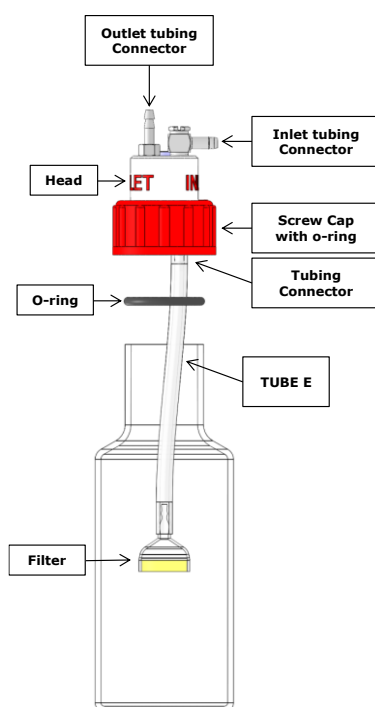

Figure 10. Assembling instruction of the Bubbling Column and its parts
3. Insert the filter with the tubing (TUBE E in Figure 10) into the glass bottle, place the o-ring on the lip of the bottle neck and then screw the cap on.